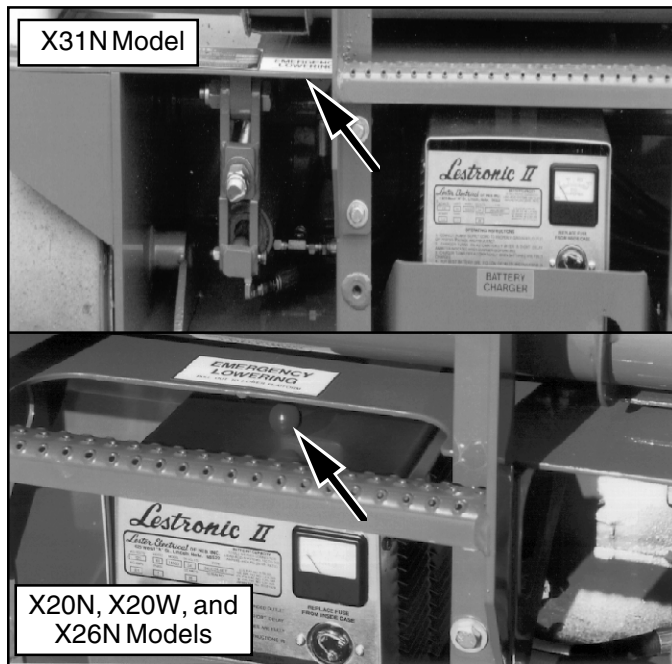

Figure 3: Emergency Lowering Valve Handle
15. Open the Chassis Emergency Lowering Valve (Figure 3) to check for proper operation by pulling and holding the knob out. Once the platform is fully lowered, close the valve by releasing the knob.
If the platform should fail to lower, **NEVER** climb down the elevating assembly. Ask a person on the ground to open the Emergency Lowering Valve located at the rear of the machine (Figure 3).